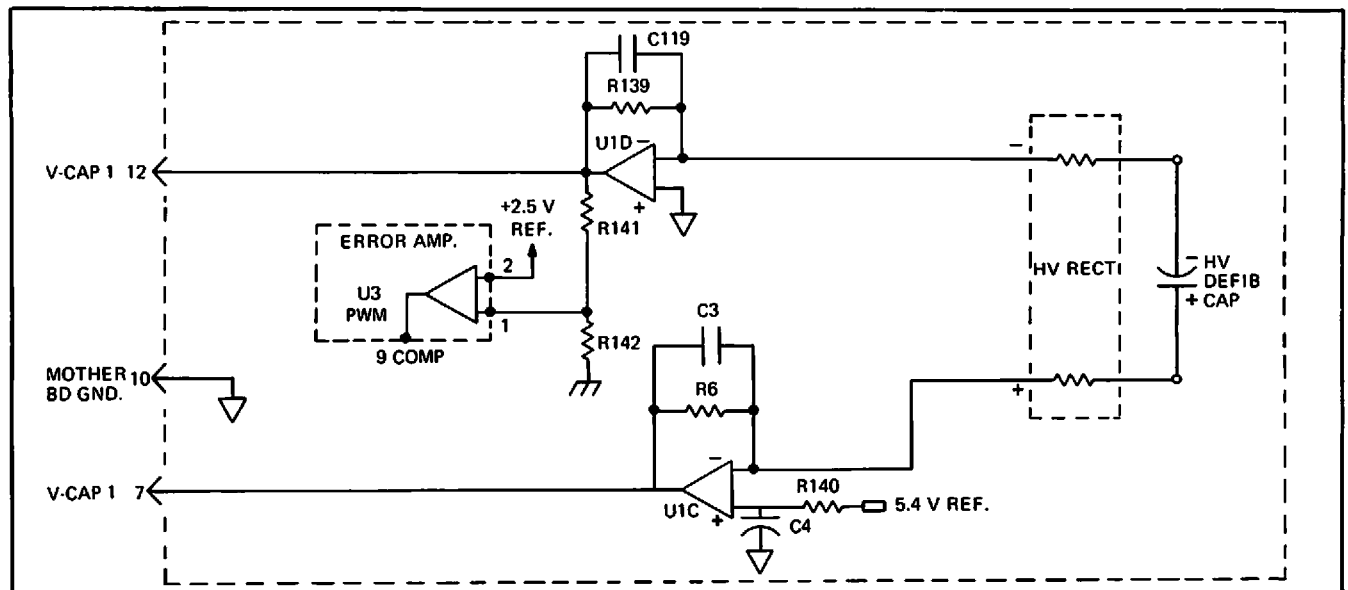

Figure 2-49
2.3.12.1 HV Monitor Circuit (Figure 2-49)